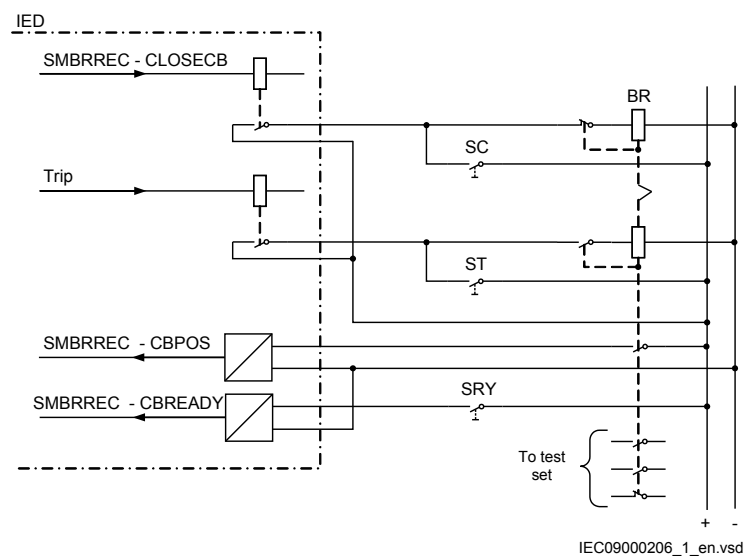

Figure 21: Simulating the CB operation by a bi-stable relay/breaker simulator and manual switches
The verification test is performed together with protection and trip functions. Figure 21 illustrates a suggested testing arrangement, where the circuit-breaker (CB) is simulated by an external bi-stable relay (BR), for example a relay type RXMVB2 or RXMD or Breaker Simulator of ABB. The following manual switches are used:
- Switch or push-button to close (SC)
- Switch or push-button to trip (ST)